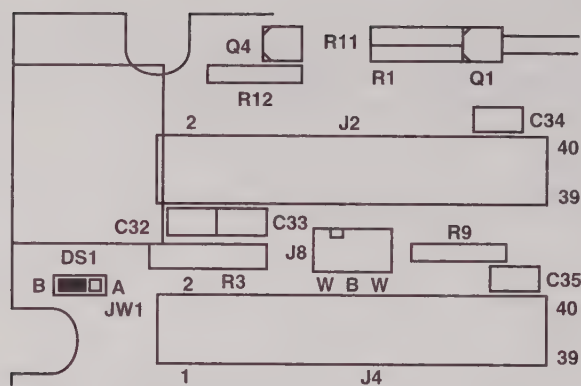

Figure 1-2
4. Locate PC board #40442 immediately behind the front panel. The selectable ground jumper is located at the upper left corner on the component side of the board (see Figure 1-2).
5. Locate PC board #40442 immediately behind the front panel. The selectable ground jumper is located at the upper left corner on the component side of the board (see Figure 1-2).